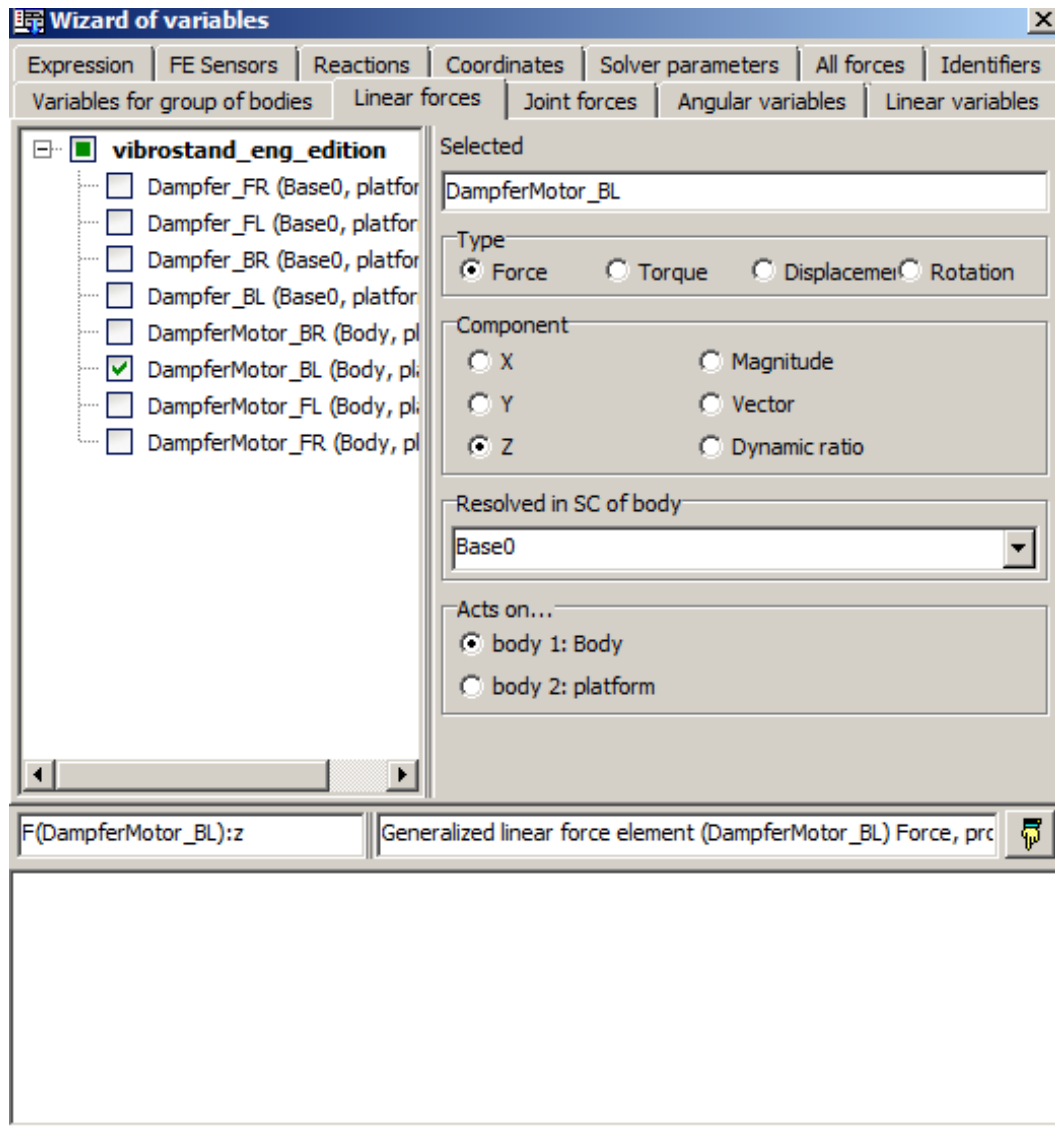

Figure 2.56.
1. Open the **Wizard of variables** (the **Tools | Wizard of variables menu command**) and create variables for **Z** components of linear force elements **DamperMotorBR** Figure 2.56.